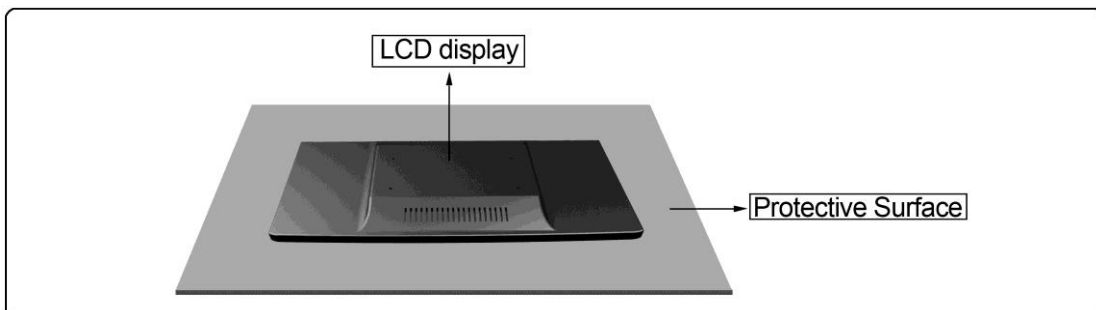

Figure 2-2
2. Carefully place the monitor face down on protective surface (**See Figure 2-2**).